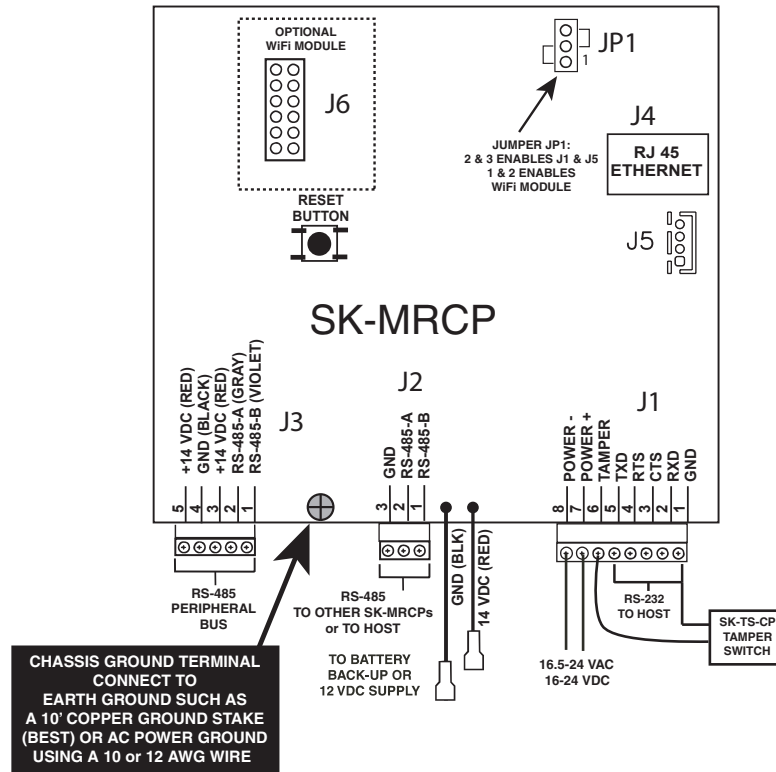

FIGURE 4
- You may connect RS-232 communications to the NOVA.16 either by using plug "J1", terminals 1-5, or by temporarily plugging the RS-232E cable into the J5 jack at the right hand side of the circuit board. (See Figure 4)
- When connecting Smart Readers to the peripheral bus, be careful to connect the RS-485B output, J3, Pin 1 to the VIOLET wire on each Smart Reader, and the RS-485A output, J3 Pin 2 to the GRAY wire on each reader. If the A and B wires are reversed, the Smart Readers will not communicate with the control panel. (Note that the RK-XRM Smart Reader uses different wire colors than other Smart Readers; it uses Orange for RS-485B and Orange/White for RS-485A.) SEE FIGURE 4.